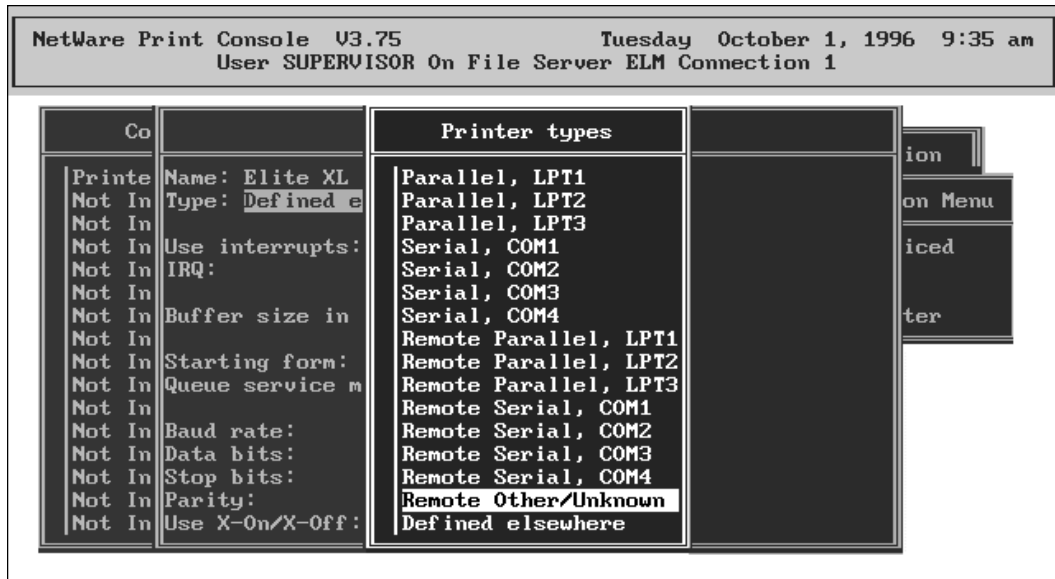

Figure 2. Selecting "Remote Other/Unknown" from the list of Printer types.
13. You **must** configure the printer as printer zero (0). Press Enter.
15. You will see a list of Printer Types (as in figure 2). Your printer must be defined as **Other Remote/Unknown**. Select this option from the list.